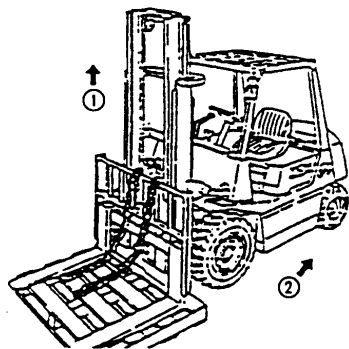

Fig8.9
- (1) Place a pallet on the forks and let the truck parking on the horizontal ground.
- (2) Make the forks and the pallet down to the ground.
- (3) Disassemble the end nipple of the upper chain and take the chain down from the sheave.
- (4) Lift the inner mast (See Fig8.9 ①).
- (5) Make the truck back-up if the lift bracket is fully separated from the outer mast. (See Fig8.9 ②)
(6) Replace the main rollers.